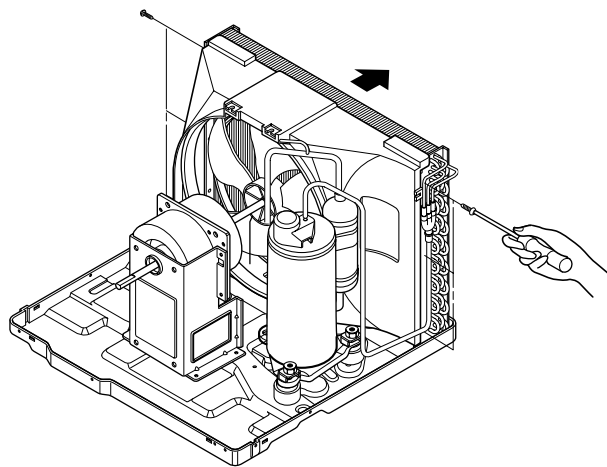

Figure 26
6. Re-install the components by referring to notes. (See Figure 26)